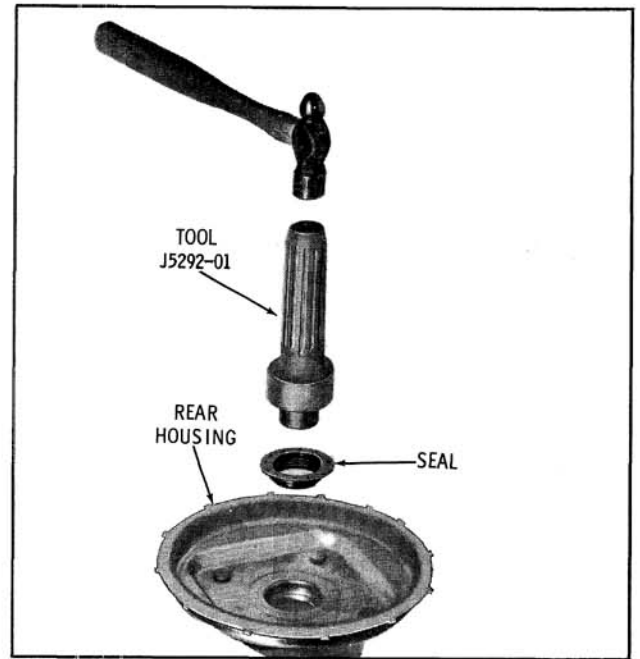

Fig. 11-63 Installing Rear Housing Seal
1. Coat a new rear housing seal with lubricant and install as shown in Fig. 11-63.